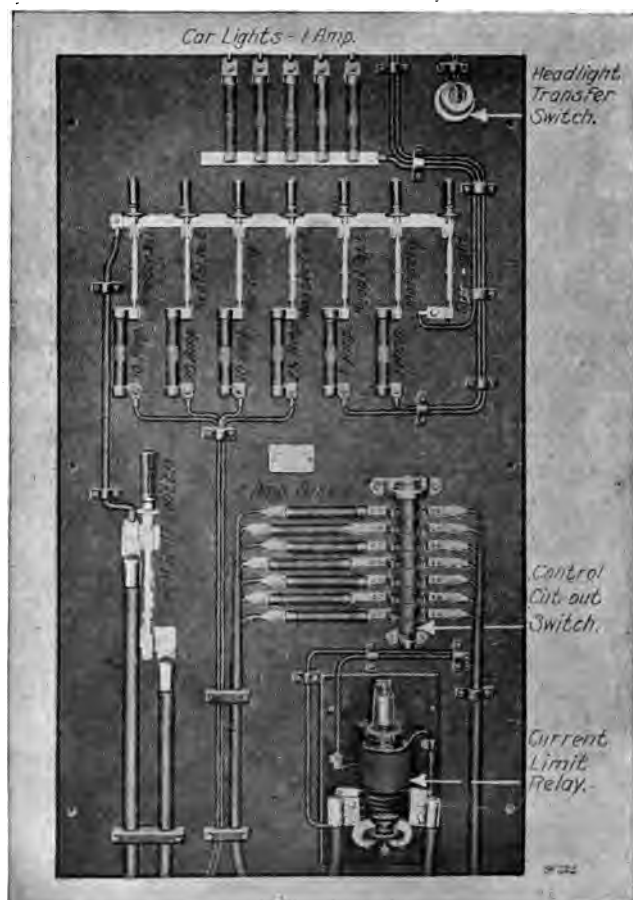

Fig. 489. Switchboard on West Jersey & Seashore Cars.
17. THE THIRD RAIL SWITCH is located on the switchboard (Fig. 489). It is a quick-break, knife-blade switch, and is used to cut off current from the third rail to the motor control circuit and to cut out the third rail shoes when operating from the trolley wire.
41. THE SWITCHBOARD (Fig. 489) is located in the vestibule at the trailer end of the car, and has mounted upon it the following apparatus: